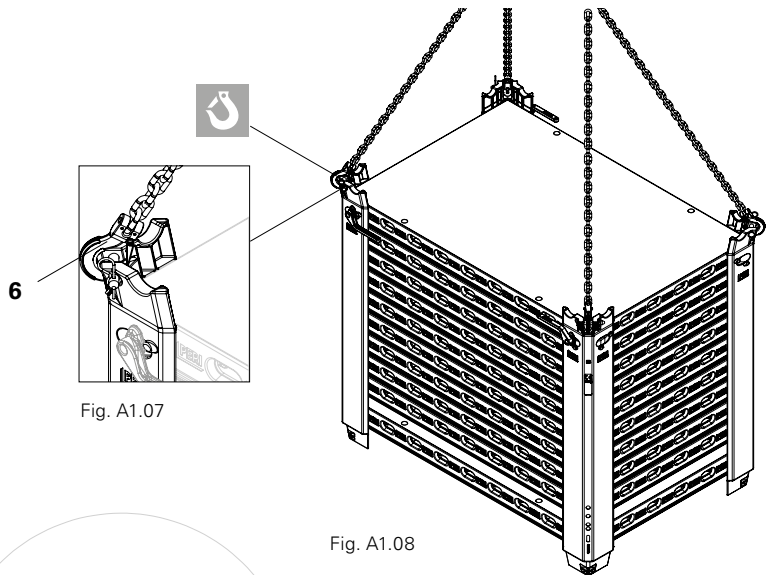

Fig. A1.07
Stacks which are formed using stacking devices can be moved with the crane. To do so, attach the lifting gear (6) at the corners of each stacking device (load-bearing point). (Fig. A1.07)